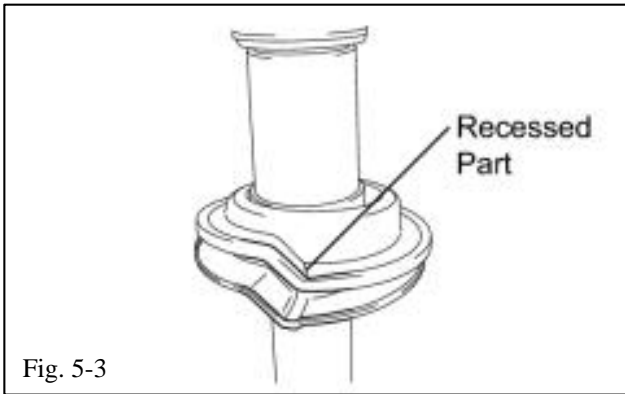

Fig. 5-3
- (e) Confirm that the lower spring insulator is indexed properly and free of debris (Fig. 5-3).